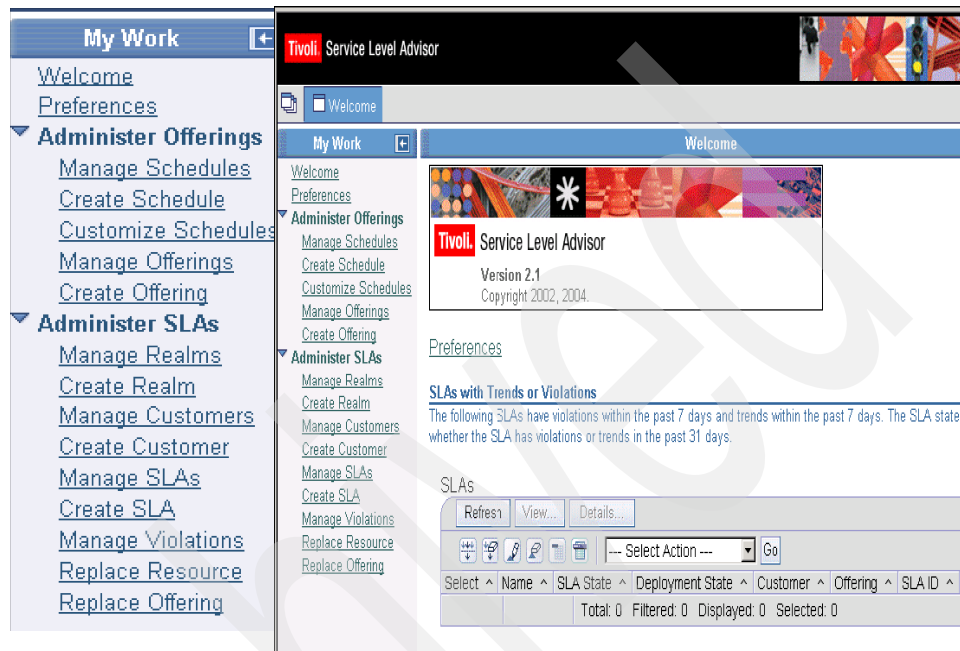

Figure 12-12 Service Level Advisor home page
3. Enter user name and password. A window similar to Figure 12-12 opens.